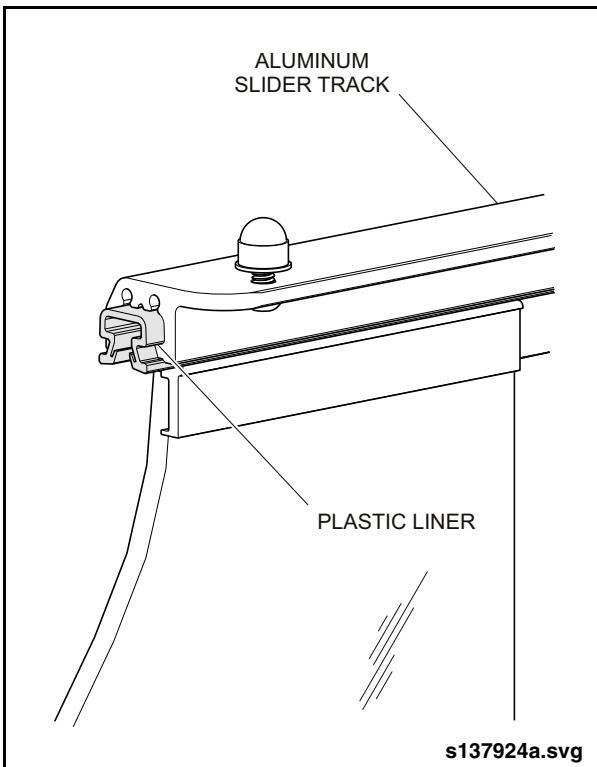

Fig. 17-23: Sliding Track Liner Replacement
3. Pry plastic liner out 1/8". See "Fig. 17-23: Sliding Track Liner Replacement" on page 23.